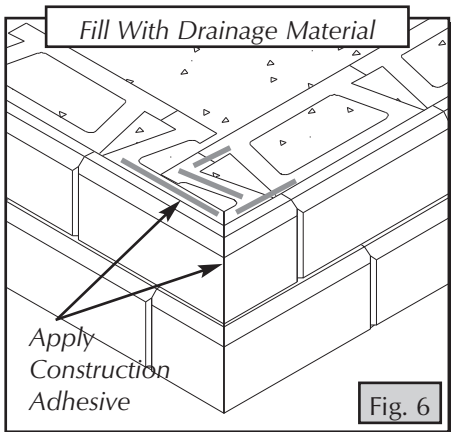

Fig. 6
- Carefully place granular material in block cores and 6-12 in. (15-30 cm) behind blocks to lock them in position (Fig. 6).
- Sweep the top of the AB blocks clean and apply 0.25 in. (6.4 mm) bead of construction adhesive along top surface of corner pieces (Fig. 6).